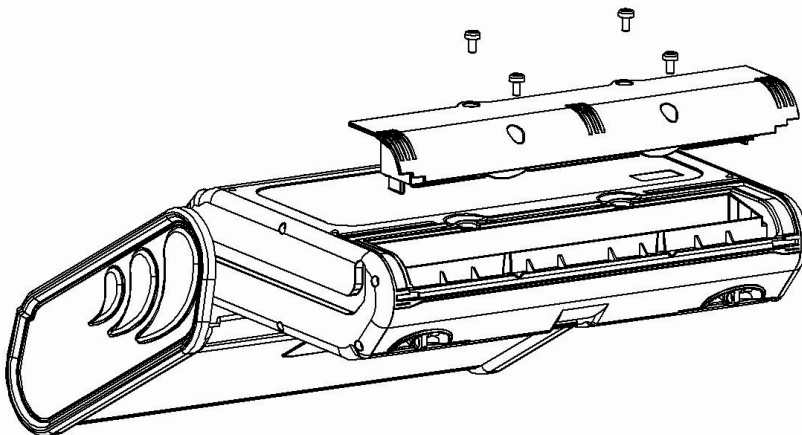

Fig. 6.1. Replacing the battery pack
- remove the four screws of the battery compartment (in the lower part of the casing), **Fig. 6.1**),